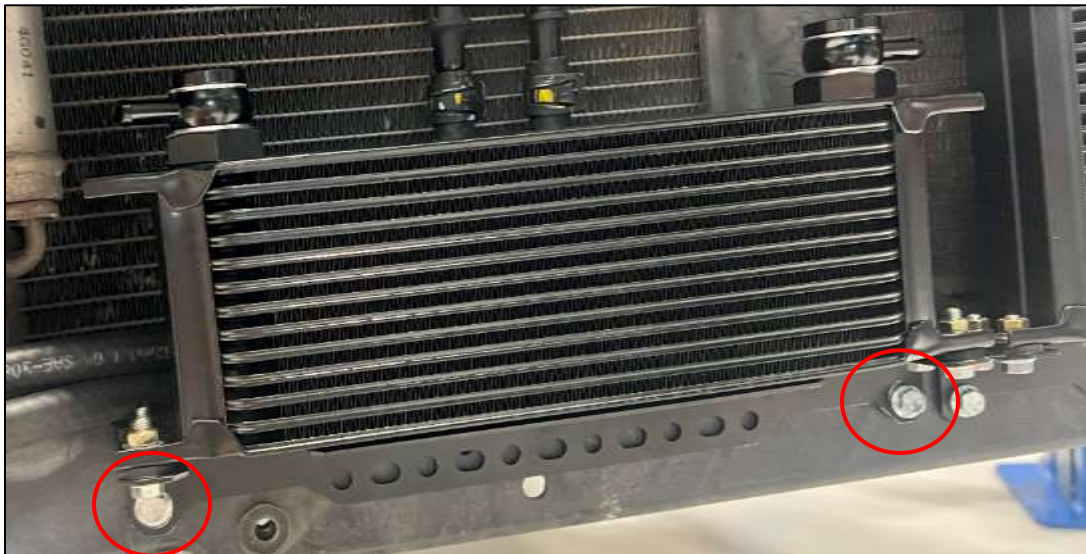

Figure 55
5. Position the Oil Cooler on the Passenger Side Core Support opening. Mark the Core Support to drill with a marker. There are multiple spots you can choose to drill and mount the Procooler. We used the outermost holes on the bracket, seen below in *Figure 55.*
7. Locate (2) two Rivnuts and the Rivnut Tool (In Oil Cooler Kit). Install a Rivnut into each hole made in *Step 6*.
8. Locate (2) two M6 x 1.0 SEMS Bolts, 25mm (#18). Mount the Oil Cooler to the Core Support with the hardware. *Figure 55.*